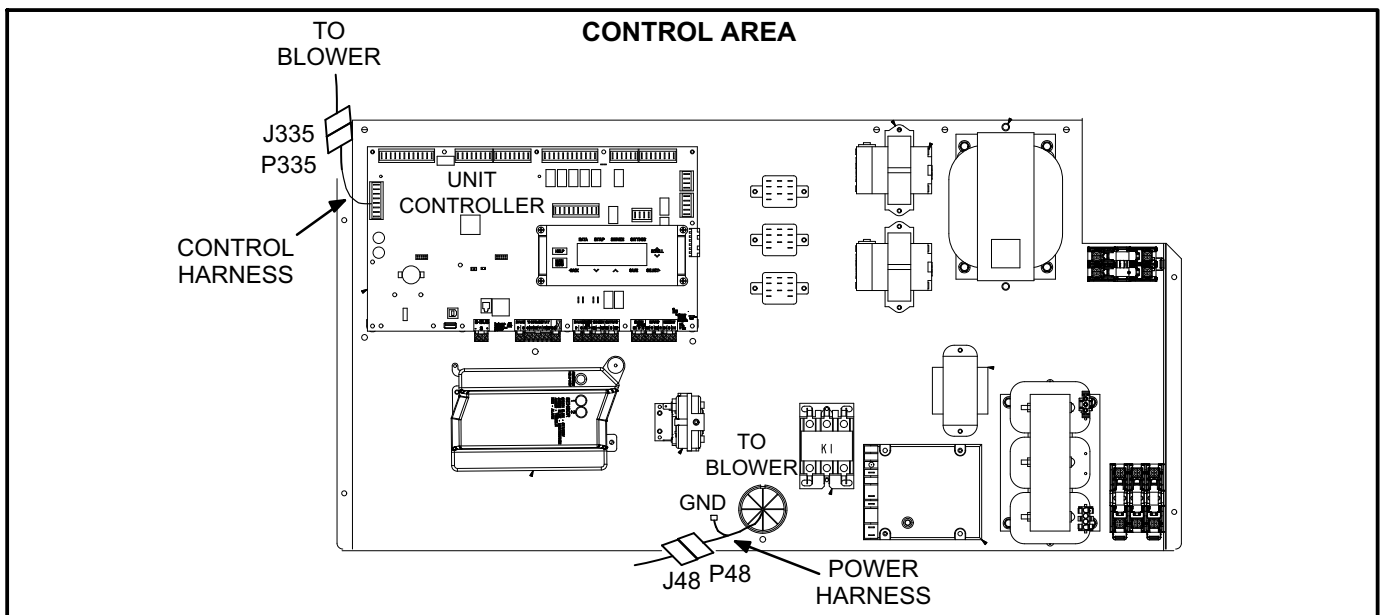

FIGURE 2
- 3- Disconnect J48 from P48 and J335 from P335 in the controls area. See figure 2.
- 7- Connect P48 and J335 to J48 and P335 as shown in figure 2.